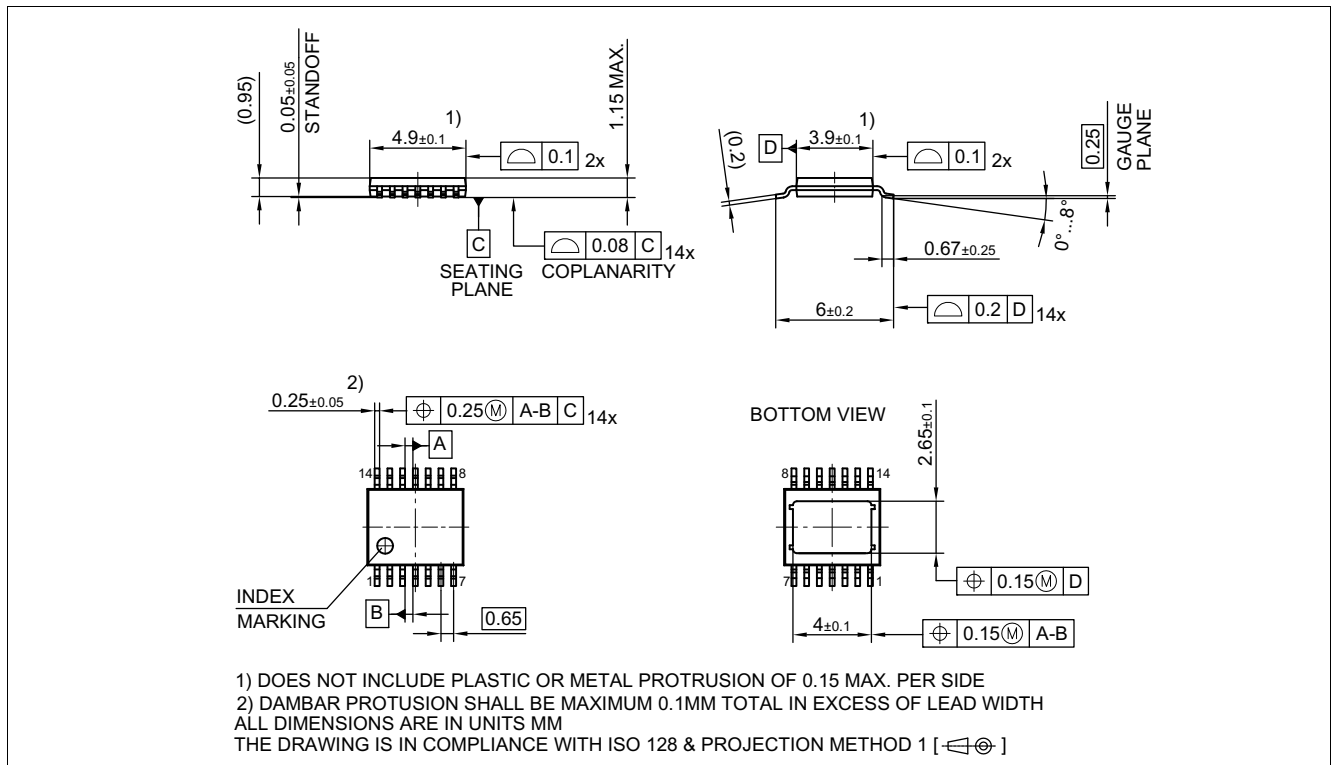
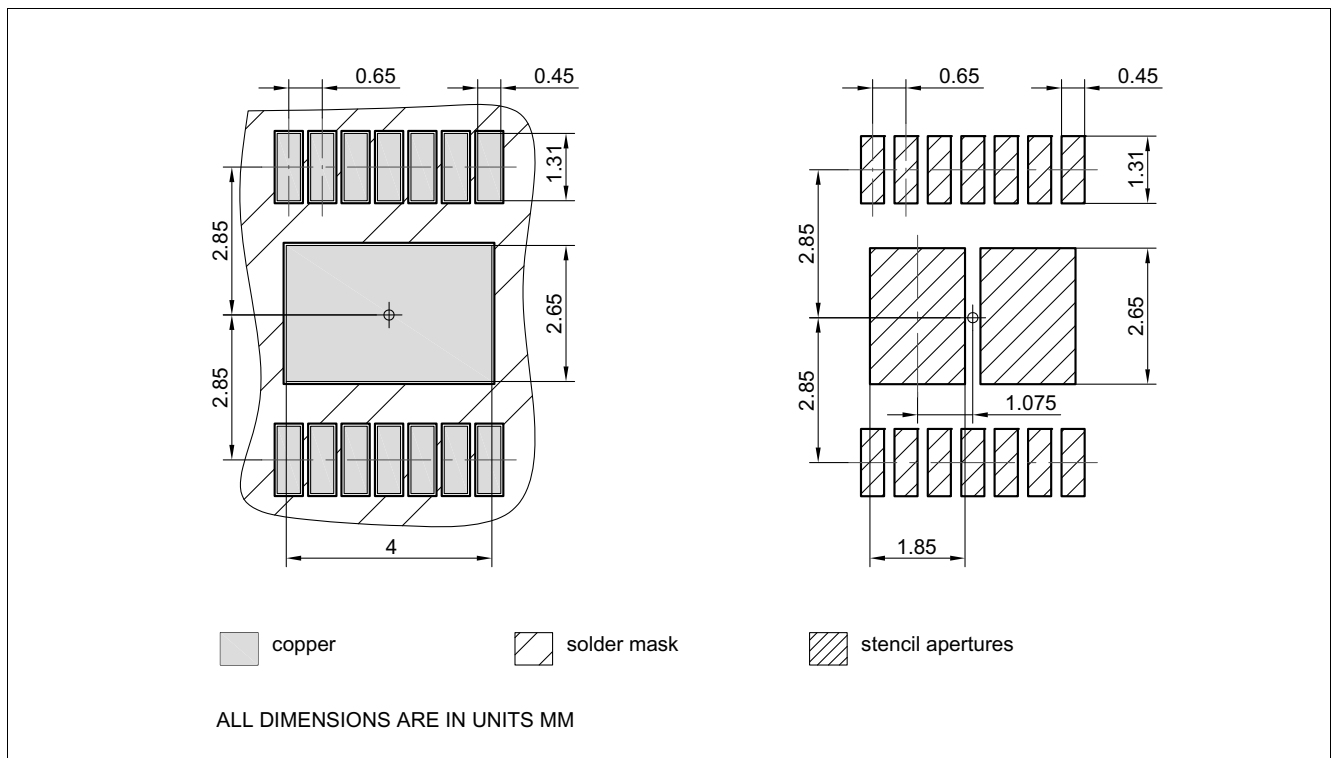

Figure 38 PG-TSDSO-14 (Thin (Slim) Dual Small Outline 14 pins) Package Outline
Figure 39 PG-TSDSO-14 (Thin (Slim) Dual Small Outline 14 pins) Package pads and stencil
1.02, 2019-02-05	<p>Figure 9, Figure 10 updated</p> <p>Page 1: updated (figure product)</p> <p>Table 22 updated (punctuation)</p> <p>Chapter 9.3, Chapter 9.3.1 updated (typo)</p> <p>Page 1: updated (Package PG-TSDSO-14-22 → Package PG-TSDSO-14)</p> <p>Figure 38 updated (PG-TSDSO-14-22 (Thin (Slim) Dual Small Outline 14 pins) Package Outline → PG-TSDSO-14 (Thin (Slim) Dual Small Outline 14 pins) Package Outline)</p> <p>Figure 39 updated (PG-TSDSO-14-22 (Thin (Slim) Dual Small Outline 14 pins) Package pads and stencil → PG-TSDSO-14 (Thin (Slim) Dual Small Outline 14 pins) Package pads and stencil)</p> <p>Table 1 updated (Parameter: Minimum Overvoltage protection ($T_J = 25\text{ °C}$) → Minimum Overvoltage protection ($T_J \geq 25\text{ °C}$))</p> <p>Table 1 updated (corrected typo in table Product Summary: $I_{VS(OFF)}$: 1 → 0.9 μA)</p> <p>Table 1 updated (Symbol: $I_{VS(OFF)} \rightarrow I_{VS(OFF)_{85}}$)</p> <p>P_6.5.20.1 updated (Symbol: $I_{VS(OFF)} \rightarrow I_{VS(OFF)_{85}}$)</p> <p>P_6.5.20.2 updated (Symbol: $I_{VS(OFF)} \rightarrow I_{VS(OFF)_{150}}$)</p> <p>P_9.7.10.27, P_9.7.10.29 updated (Note or Test Condition: formatted physical symbols as subscript)</p>